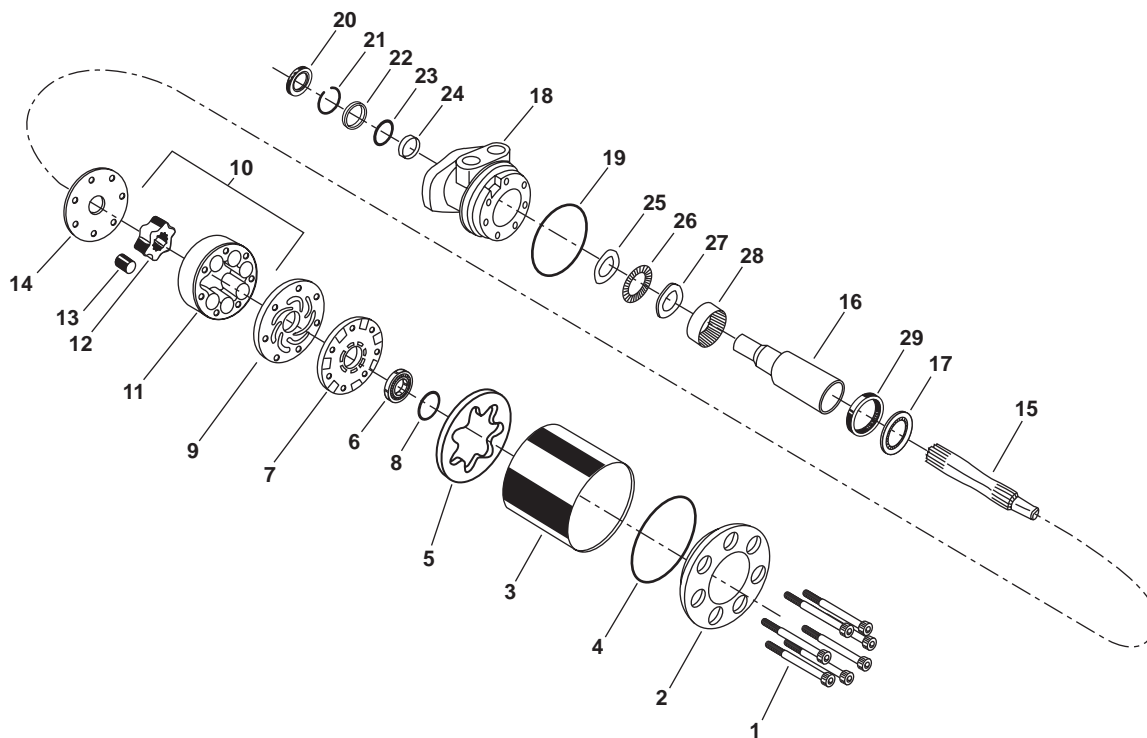

Figure 2. Exploded View of the Torqmotor
4. Remove the seven bolts (figure 2, item 1) from the end cover (figure 2, item 2).
5. Remove the end cover (figure 2, item 2) from the sleeve (figure 2, item 3).
6. Remove the seal ring (figure 2, item 4) from the end cover (figure 2, item 2). Discard the seal ring.
7. Remove the commutator ring (figure 2, item 5), commutator (figure 2, item 6), and manifold (figure 2, item 7) from the sleeve (figure 2, item 3) by installing two bolts (figure 2, item 1) into the commutator ring and lifting it out.
8. Remove the seal ring (figure 2, item 8) from the commutator (figure 2, item 6). Discard the seal ring.
9. Remove the manifold plate (figure 2, item 9) from the sleeve (figure 2, item 3) by installing two bolts (figure 2, item 1) in the manifold plate and lifting it out.
10. Remove the rotor set (figure 2, item 10) with the stator (figure 2, item 11), rotor (figure 2, item 12), vanes (figure 2, item 13), and the wear plate (figure 2, item 14) from the sleeve (figure 2, item 3) by installing two bolts (figure 2, item 1) in the rotor set and lifting it out.
11. Remove the drive link (figure 2, item 15) from the coupling shaft (figure 2, item 16).
12. Remove the thrust bearing (figure 2, item 17) from the coupling shaft (figure 2, item 16).
13. Remove the coupling shaft (figure 2, item 16) from the sleeve (figure 2, item 3) by pushing on the output end of the coupling shaft.
14. Remove the sleeve (figure 2, item 3) from the housing (figure 2, item 18).
15. Remove the seal ring (figure 2, item 19) from the housing (figure 2, item 18). Discard the seal ring.
16. Remove the housing (figure 2, item 18) from the vise, invert the housing, and place it back in the vise.
17. Remove the dirt seal (figure 2, item 20) from the housing (figure 2, item 18). Discard the dirt seal.
18. Remove the retaining ring (figure 2, item 21) from the housing (figure 2, item 18). Compare the retaining ring with the retaining rings in the new seal kit prior to discarding the retaining ring.
19. Remove the backup washer (figure 2, item 22) from the housing (figure 2, item 18). Discard the backup washer.
20. Remove the washer (figure 2, item 23) from the housing (figure 2, item 18). Discard the washer.
21. Remove the seal (figure 2, item 24) from the housing (figure 2, item 18). Discard the seal.
22. Using an arbor press, remove the thrust washer (figure 2, item 25), the thrust bearing (figure 2, item 26), the thrust washer (figure 2, item 27), the lower bearing (figure 2, item 28), and the upper bearing (figure 2, item 29). Discard all bearings and thrust washers.
2. Inspect the bolts (figure 2, item 1) for damaged threads. Replace any damaged bolts.
3. Inspect the end cover (figure 2, item 2) for cracks and the bolt head recesses for proper sealing surfaces. Replace the end cover if cracks are found or the bolt head recess sealing surface is damaged.
4. Inspect the commutator ring (figure 2, item 5) and the commutator (figure 2, item 6) for cracks, burrs, wear, scoring, spalling, or brinelling. Replace the commutator ring and the commutator as a matched set if any of these conditions are present.
5. Inspect the manifold (figure 2, item 7) and the manifold plate (figure 2, item 9) for cracks, surface scoring, brinelling, or spalling. Replace the manifold and manifold plate if these conditions are present.
6. Inspect the rotor set (figure 2, item 10) in its assembled form for nicks, scoring, spalling, and broken or worn rotor splines. Replace the entire rotor set if any component of the rotor set has these conditions present.
7. Place the rotor set (figure 2, item 10) on a flat surface and center the rotor (figure 2, item 12) in the stator (figure 2, item 11) so that two rotor lobes are 180° apart and a vane (figure 2, item 13) centerline is on the same stator centerline.
8. Check the rotor (figure 2, item 12) to vane (figure 2, item 13) clearance with a feeler gauge. Replace the rotor set if there is more than 0.005 in (0.13 mm) of clearance.
9. Inspect the drive link (figure 2, item 15) for cracks and worn or damaged splines. No play should be noted between mating spline parts. Replace the drive link if these conditions exist.
10. Inspect the thrust bearing (figure 2, item 17) for wear, brinelling, corrosion, and a full complement of rollers. Replace the thrust bearing if any of the listed conditions exist or the rollers are missing or damaged.
11. Inspect the coupling shaft (figure 2, item 16) for damaged or worn internal and external splines. Minor shaft wear is permissible in the seal area so long as the wear has not exceeded 0.020 in (0.51 mm) diametrically. Replace the coupling shaft if any of these conditions are present.
12. Inspect the sleeve (figure 2, item 3) for severe nicks, burrs, corrosion, or deformation from the original cylindrical shape. Replace the sleeve if any of these conditions are present.